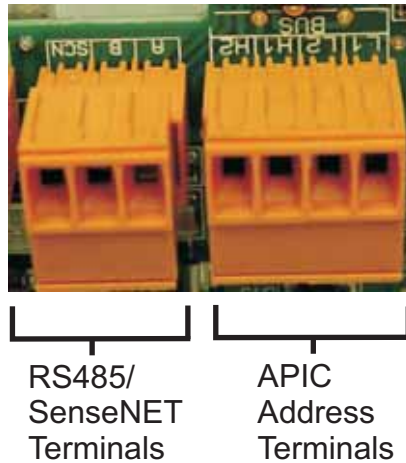

Figure 2-5. APIC Address and RS485/SenseNET Terminals
3. Remove either the three-way terminal block next to the power supply socket (if connecting the Detector to a SenseNET™ system) or the four-way "Bus" terminal block (if connecting the Detector to an alarm panel in conjunction with the APIC addressable bus card). Refer to Figure 2-5 for an illustration of the terminals and Section 2-13 for details on addressing.